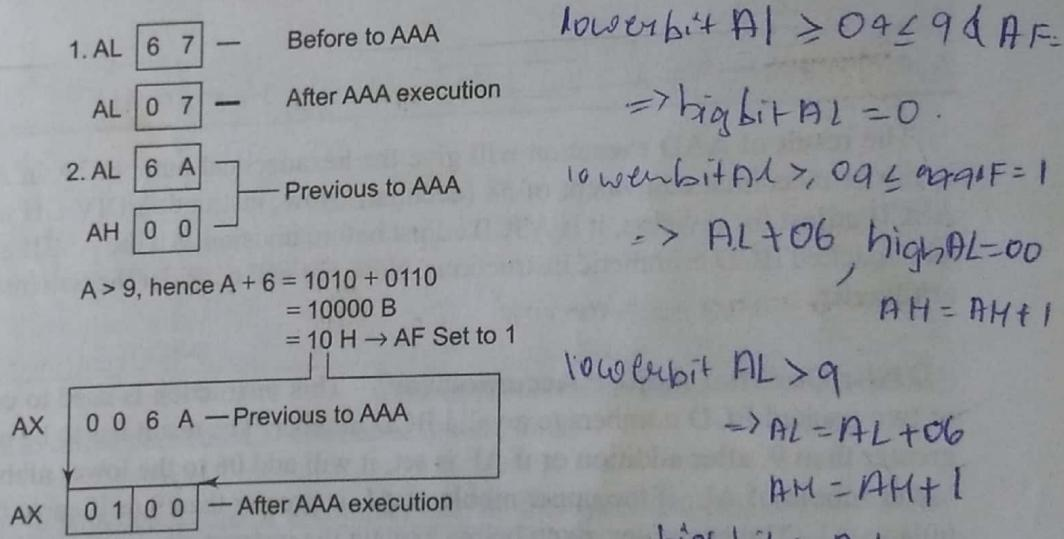

Fig. 2.6 ASCII Adjust after Addition Instruction
**AAA: ASCII Adjust After Addition** The AAA instruction is executed after an ADD instruction that adds two ASCII coded operands to give a byte of result in AL. The AAA instruction converts the resulting contents of AL to unpacked decimal digits. After the addition, the AAA instruction examines the lower 4 bits of AL to check whether it contains a valid BCD number in the range 0 to 9. If it is between 0 to 9 and AF is zero, AAA sets the 4 high order bits of AL to 0. The AH must be cleared before addition. If the lower digit of AL is between 0 to 9 and AF is set, 06 is added to AL. The upper 4 bits of AL are cleared and AH is incremented by one. If the value in the lower nibble of AL is greater than 9 then the AL is incremented by 06, AH is incremented by 1, the AF and CF flags are set to 1, and the higher 4 bits of AL are cleared to 0. The remaining flags are unaffected. The AH is modified as sum of previous contents (usually 00) and the carry from the adjustment, as shown in Fig. 2.6. This instruction does not give exact ASCII codes of the sum, but they can be obtained by adding 3030H to AX.